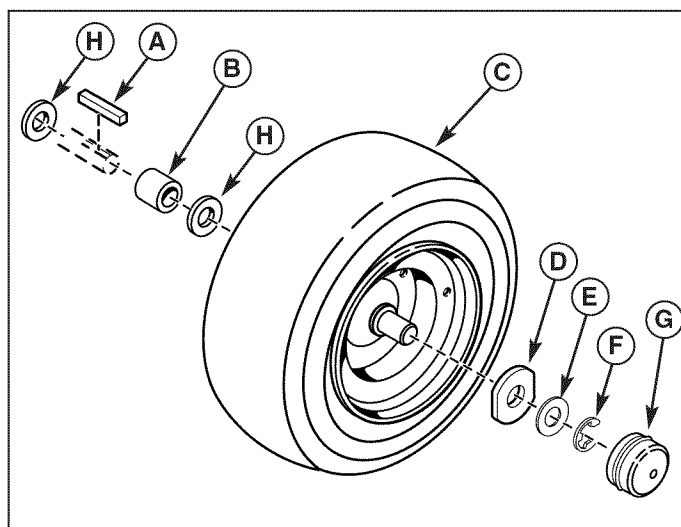

Figure 17. Rear Axle Hardware
5. Reinstall the components in reverse order of disassembly and lower the unit. Be sure the key (A, Figure 17) is in place in the axle keyway.